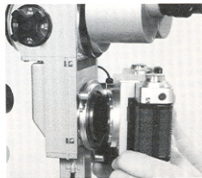
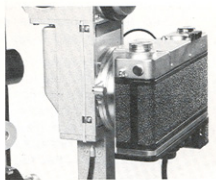

Fig. 70
Fig. 71
- (b) Move the camera fixing lever, on top of the camera attachment mount of the photographic attachment, upwards, insert the camera body mount over the camera attachment mount and then lower the fixing lever which will fix the camera body securely. (See Fig. 70 and Fig. 71)